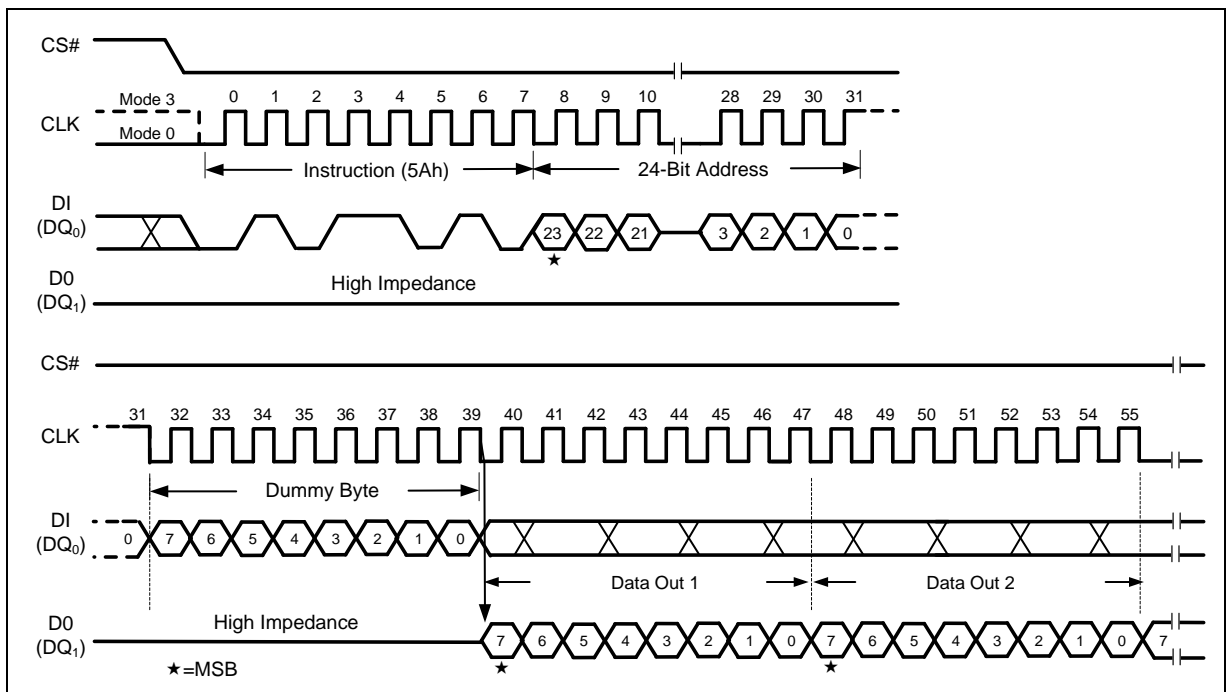

Figure 52 Read SFDP Register Instruction
The Read SFDP instruction is initiated by driving the /CS pin low and shifting the instruction code “5Ah” followed by a 24-bit address (A23-A0)(1) into the DI pin. Eight “dummy” clocks are also required before the SFDP register contents are shifted out on the falling edge of the 40th CLK with most significant bit (MSB) first as shown in Figure 52. For SFDP register values and descriptions, refer to the following SFDP Definition table.